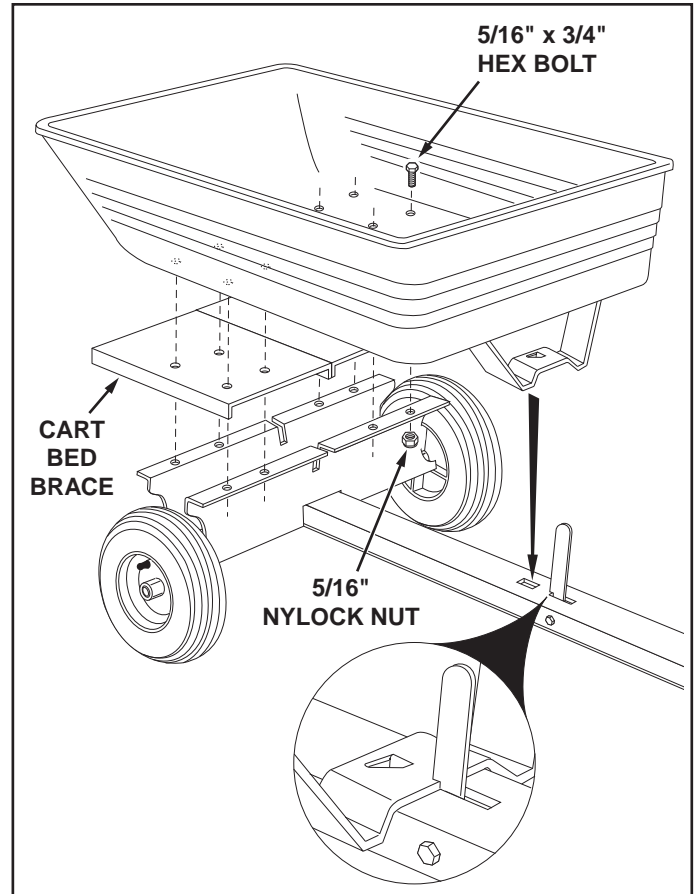

FIGURE 6
- Place the cart bed braces and the cart tray onto the wheel support. Secure latch stand bracket underneath the tongue's latch lock lever. See figure 6.
- Assemble the cart tray and cart bed braces to the wheel support using eight 5/16" x 3/4" hex bolts and 5/16" nylock nuts. Tighten nuts after all bolts are in place. See figure 6.